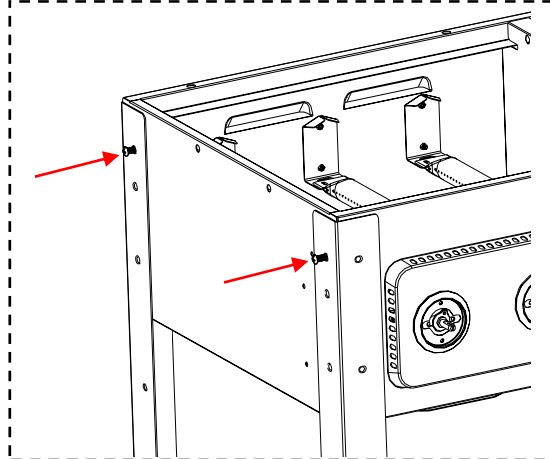

Fig. 8A
Refer to Fig. 8A, Screw in the (2) M6x15 bolts into the (2) top holes, BUT, leave about 1/8 of the bolt sticking out, as shown. Refer to Fig.8B, Position the Burner Housing over the (2) bolt heads and into the Keyhole openings. Slide the Housing down to fit the bolts into the slots. Then place (2) bolts into the bottom (2) holes, then tighten all (4) bolts to secure the housing to the grill as seen in Fig.8C.